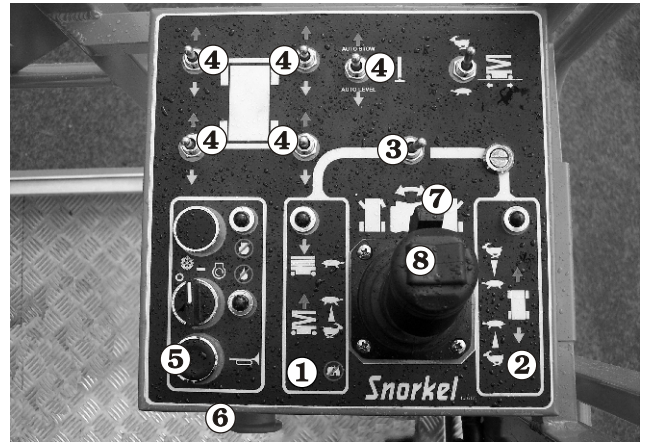

Figure 7.27 - Platform Controls
Check all of the lift, drive ②, steer ③, and stabiliser ④ functions from the platform control box to see that they cause the SR to move the way it should (see Figure 7.27). (for correct operating procedures see the Operation chapter).